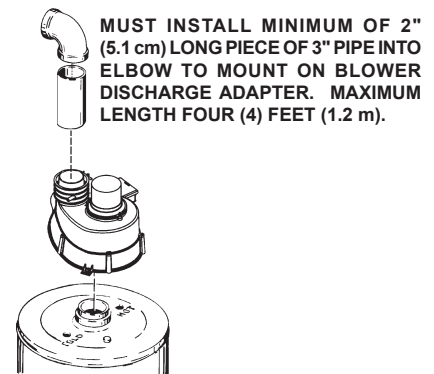

FIGURE 6
1. Layout the total vent system to use a minimum of vent pipe and elbows. Take into consideration that an elbow will be necessary to make the first vent pipe connection to the power ventor outlet (see Figure 6).
2. This water heater is capable of venting the flue gases the equivalent of thirty (30) feet (9.1 m) of 3 inch pipe or one-hundred (100) feet (30.5 m) of 4 inch pipe as listed in Table 1.
**NOTE:** The equivalent length of pipe listed above are exclusive of the "45° Elbow" termination. That is, the termination "45° Elbow", with installed screen, is assumed to be in the system and the remainder of the system must not exceed the thirty (30) equivalent feet (9.1 equivalent meters) of 3 inch pipe or one-hundred (100) equivalent feet (30.5 equivalent meters) of 4 inch pipe.
3. The blower discharge adapter is made to accept only straight sections of 3" pipe. To start a minimum of 2 inches (5.1 cm) of 3" pipe must be attached to the blower discharge (See Figure 6).
- The blower discharge boot is made to accept only straight sections of 3" pipe. To start off with an elbow, a short section of the furnished pipe, a minimum of 2 inches (5.1 cm), must be cut and glued into the end of the elbow that will mount on the discharge boot (see figure 6).